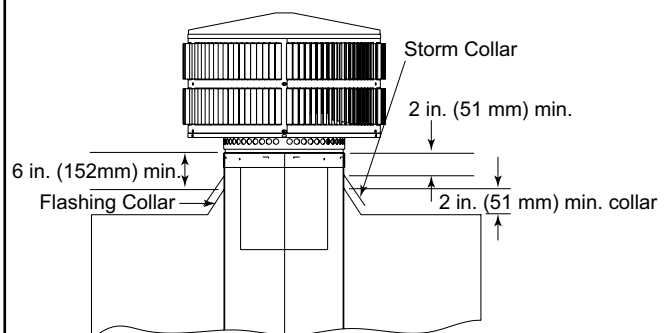

Figure 28.3 Installing a TR344 Round Termination Cap
- Install the chimney sections up through the chase enclosure. When using a round termination cap, the uppermost top section of pipe must extend 6 in. (152 mm) above the top of the flashing collar to allow installation of the storm collar and termination cap. See Figure 28.3.